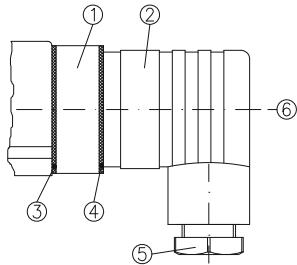

Fig. 7
- ↳ Loosen the central screw ⑥ M3x35 and disconnect the cable socket ② from the connector ① (→ Fig. 7). Pull the central screw ⑥ out of the cable socket ②.